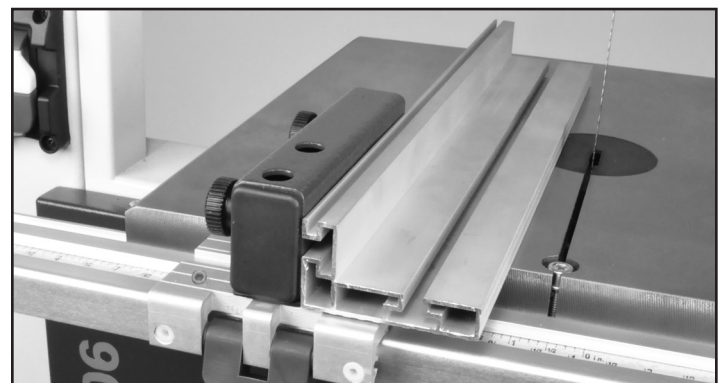

FIGURE 33
3. Rotate the fence 180°, turn it down to its horizontal position and slide it back onto the carrier. The short face of the fence is slotted to mount on the frame bar. FIG. 33.